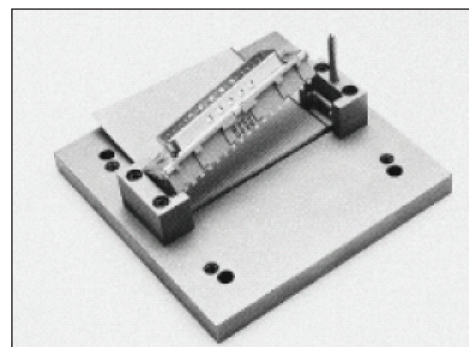

Figure 7
- 4.3 Place the cable/cover sub assembly between the guides on the locator plate, cover side down. (See Figure 7)
- 4.4 Position and orient connector body, contacts down, over the cable/cover sub-assembly, aligning with the body. (See Figure 7)